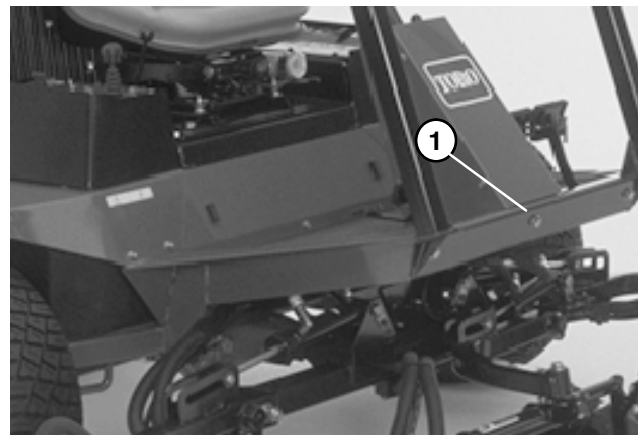

Figure 16
B. If testing forward function, connect a chain to the rear frame tie-down brackets. Connect the other end of the chain to an immovable object and remove all slack from the chain. If testing reverse function, attach chain to the center of the front frame member (Fig. 16).